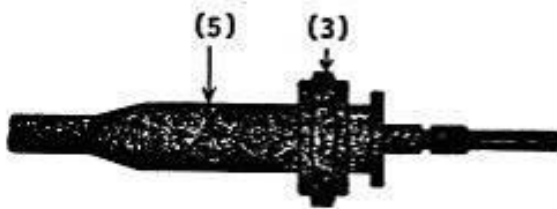

Figure 33
- E. Cut End of Wiping Sleeve – (5) on taper so that sleeve will just pass over cable. Pass the nut (3) and the wiping sleeve (5) over the cable keeping the union nut (3) in the position shown in Figure 33.